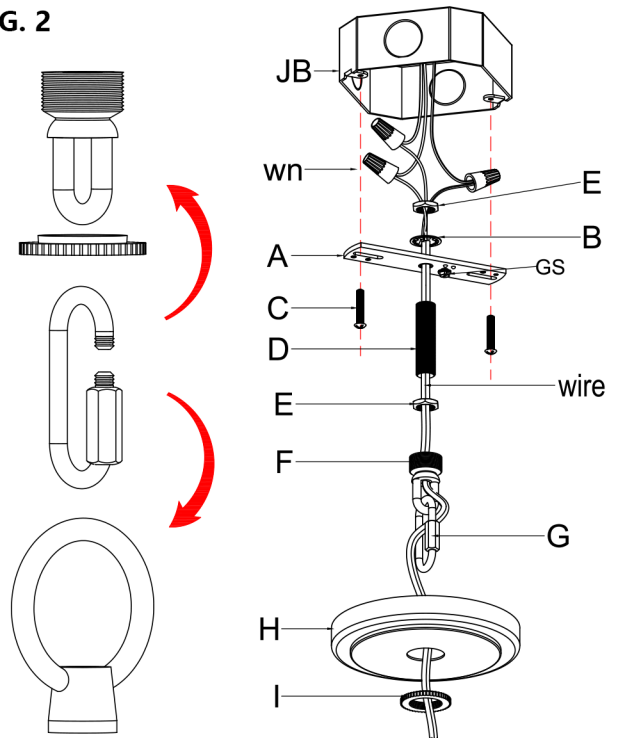

Fig. 3
CONNECTING THE WIRE (Fig. 3)
13. Connect the electrical wire as shown in Fig. 3, making sure that all the wire connectors are secured. If your junction box has a ground wire (green, or bare copper), connect fixture's ground wire to it. Otherwise connect fixture's ground wire directly to crossbar (A) using green screw provided.
14. Tuck wire connections neatly into junction box (JB).
15. Raise canopy (H) over ceiling loop (F) and secure with collar ring (I).